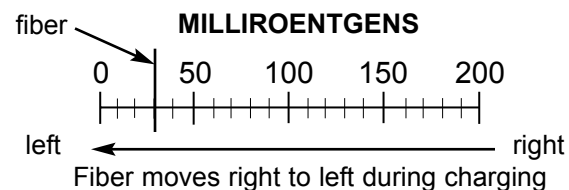

Figure 3
4. With the dosimeter locked in place, look through the dosimeter at a light source such as a light bulb, window or a small flashlight to view the scale shown in fig. 3.